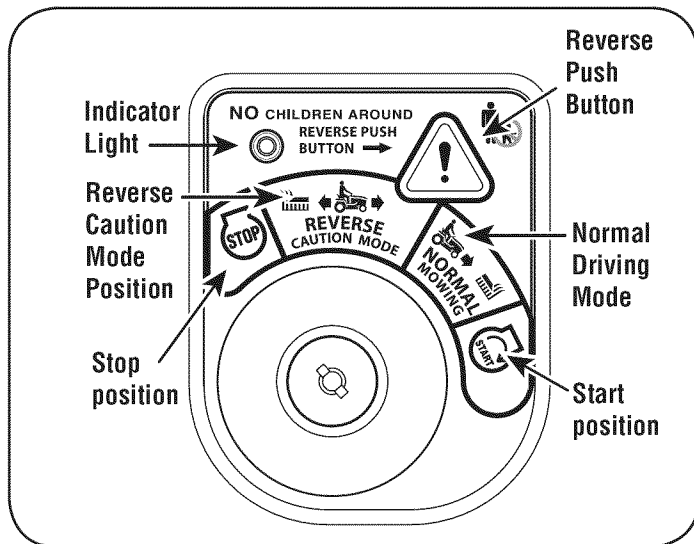

Figure 7
2. Turn the key from the NORMAL MOWING (Green) position to the REVERSE CAUTION MODE (Yellow) position of the key switch module. See Figure 7.
3. Depress the REVERSE PUSH BUTTON (Orange, Triangular Button) at the top, right corner of the key switch module. The red indicator light at the top, left corner of the key switch module will be ON while activated. See Figure 7.